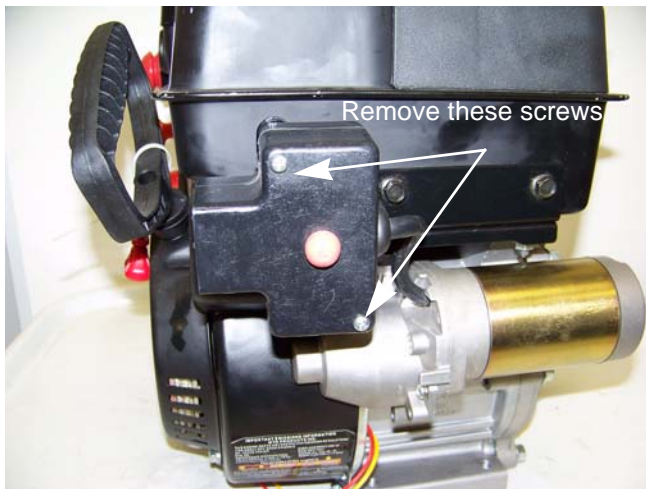

Figure 6.10
2. Remove the two screws that secure the switch box to the engine. See Figure 6.10.